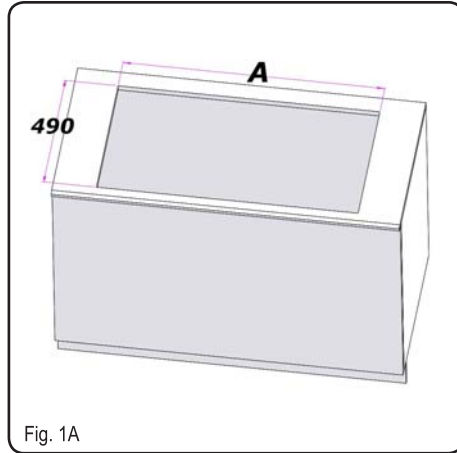
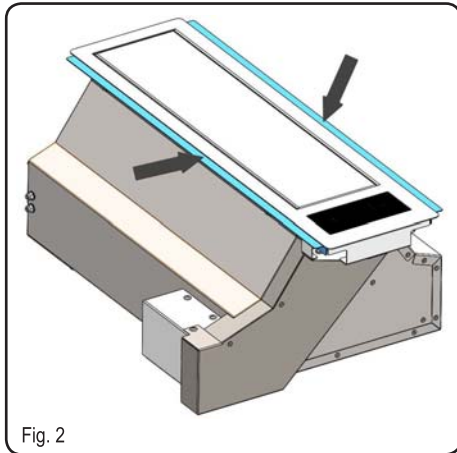
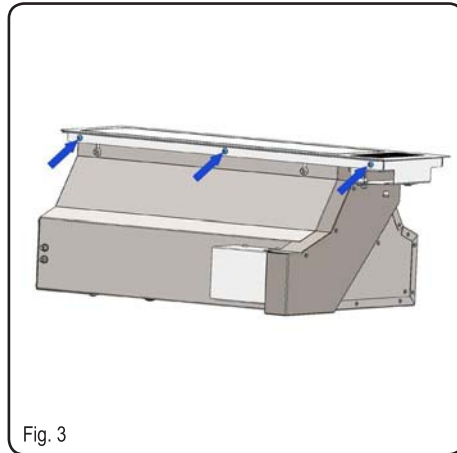

Fig. 1A
Fig. 2
Fig. 3
3. Carry out a rectangular hole of the dimensions of 490mm x A, (fig. 1A), the dimension A changes depending on the size of the hob. The product is equipped with two angles to support the hobs (fig. 2), before installing the product check the actual need for these components and if not remove them by removing the screws in fig. 3.